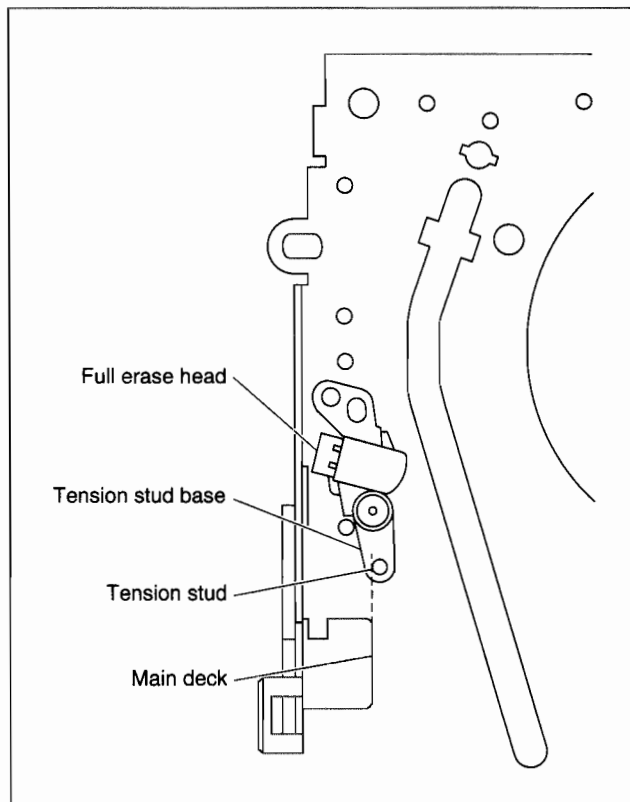

Fig. 2-3-9
- (1) Adjust so that the left side of the tension stud is on the extension of the notch line of the main deck. (See Fig. 2-3-9.)